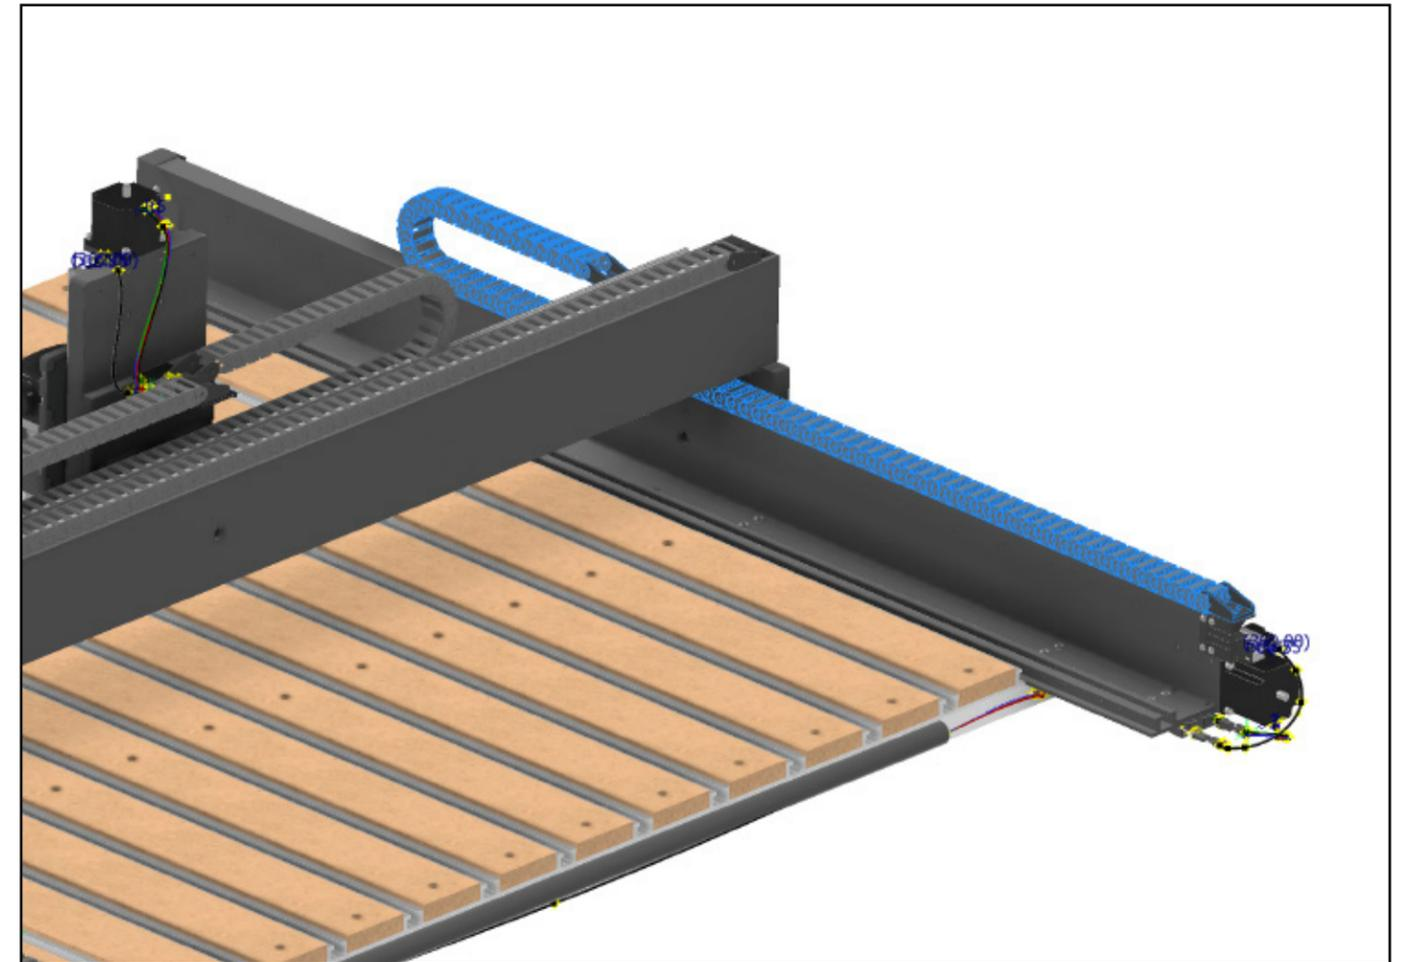

Figure 5-3
4. Lift the Y-Axis (shorter) drag chain and set it onto the Y-Left assembly (it slides under the gantry). See Fig. 5-3.
5. Use a 2.5mm hex key and two (2) M3×6mm SHCS to secure the X-Axis (longer) drag chain head to the bracket on the back of the HDZ. Fully tighten.
6. Use a 2.5mm hex key and two (2) M4×6mm BHCS to secure the X-Axis drag chain tail to the Y-Left end of the gantry. Fully tighten.
7. Use a 2.5mm hex key and two (2) M3×6mm SHCS to secure the Y-Axis (shorter) drag chain head to the Y-Left carriage. Fully tighten.
8. Use a 2.5mm hex key and two (2) M3×6mm SHCS to secure the Y-Axis drag chain tail to the Y-Left assembly. Fully tighten.